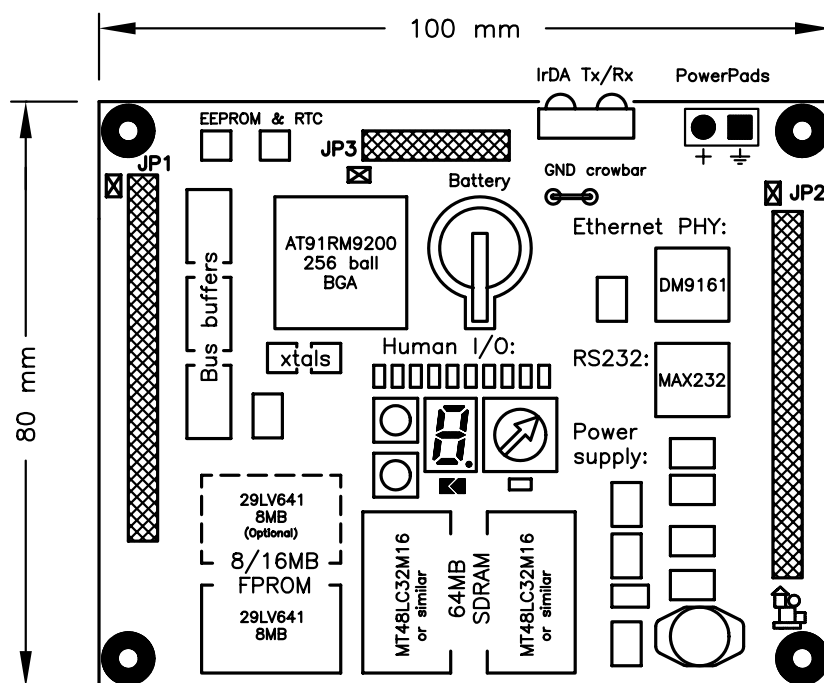

Figure 2.2: Layout of the main components on a LIABARM9200 microprocessor board.
1. The LIABARM9200 microprocessor board itself. The board is 80×100 mm² and has a seven segment display and a hex switch in its center. Along the narrow sides, pin headers are located. No standard connectors for Ethernet, USB or serial ports are found on this board. A drawing of this board is shown in Fig. 2.2 on page 12. The board is preloaded with Linux when shipped from LIAB ApS.
The layout of connectors, jumpers and main components are shown in Fig. 2.2. The two 50-pin I/O-connectors and the 20-pin media connector are shown as hatched rectangles on the figure. The purpose of the individual headers JP1-3 is described in Table 2.1 on page 13.
The three pin headers present on the bottom side of the LIABARM9200 microprocessor board are labeled JP1, JP2 and JP3. Their location can be observed on Fig. 2.2 and pin no. 1 is marked with a crossed rectangle. All pin headers consist of two rows of gold-plated pins placed on a 2.00mm module grid. The purpose of the individual pin headers is described in Table 2.1. The pin